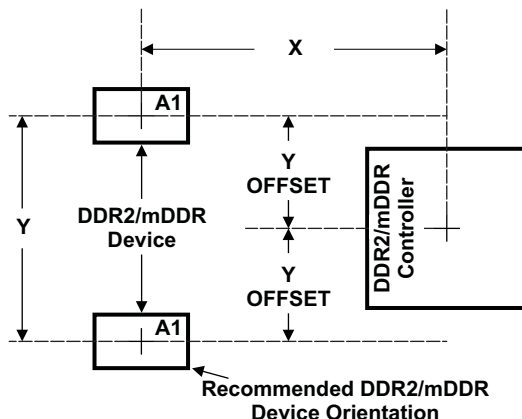

**Figure 6-18. Device and DDR2/mDDR Device Placement**
Figure 6-17 shows the required placement for the device as well as the DDR2/mDDR devices. The dimensions for Figure 6-18 are defined in Table 6-28. The placement does not restrict the side of the PCB that the devices are mounted on. The ultimate purpose of the placement is to limit the maximum trace lengths and allow for proper routing space. For single-memory DDR2/mDDR systems, the second DDR2/mDDR device is omitted from the placement.
(1) See Figure 6-18 for dimension definitions.
(2) Measurements from center of device to center of DDR2/mDDR device.